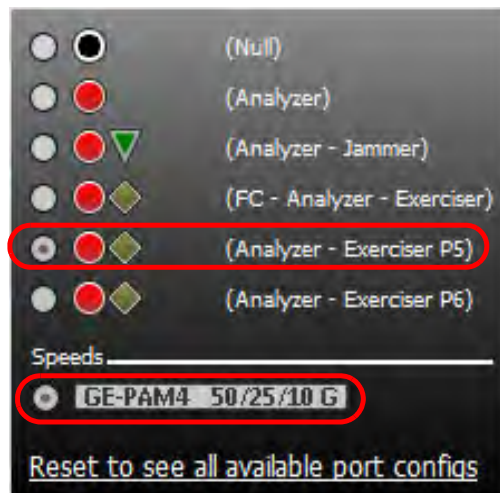

Figure 9.5: M648 Port Pair Drop-Down Menu
- c. From the drop down menu (Figure 9.5), click the radio buttons for an **Analyzer – Exerciser** on the desired port.